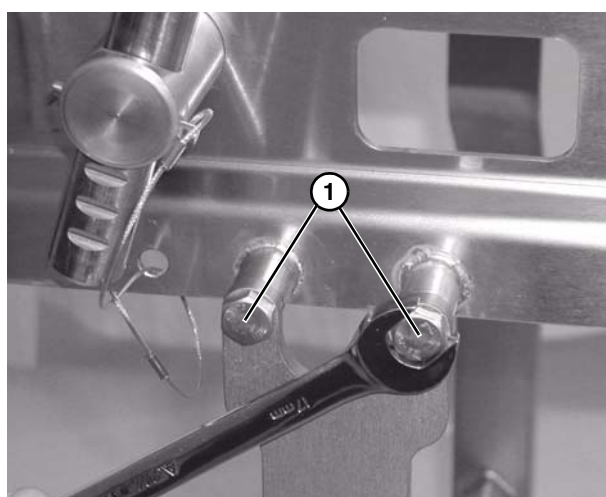

Figure 13
2. Attach the stands to the frame (**Figure 13**).
3. Tighten hex screws (**Figure 13, item 1**).